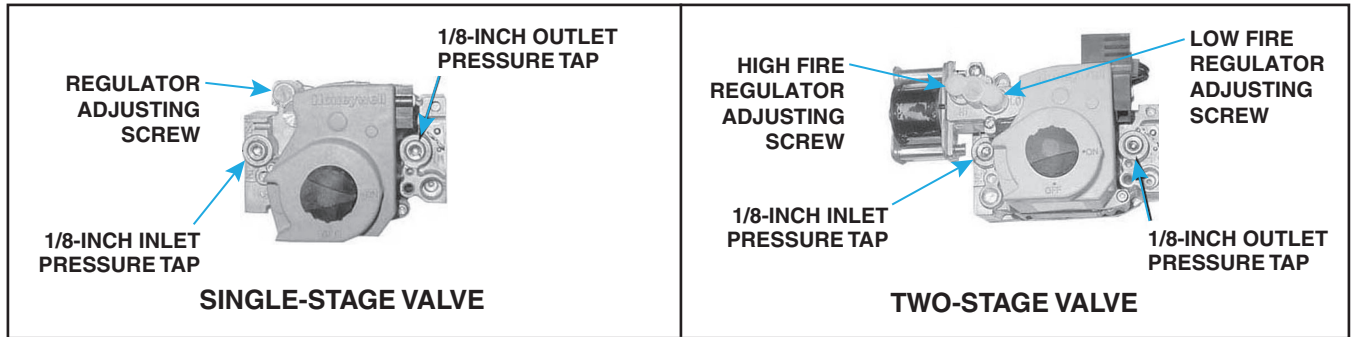

Figure 21. Combination Gas Valve Test Connections
1. Locate 1/8-inch FPT INLET pressure tap on combination gas valve (see Figure 21).
2. With field-installed manual valve closed to prevent flow to gas valve, connect manometer to 1/8-inch FPT INLET pressure tap (see Figure 21).